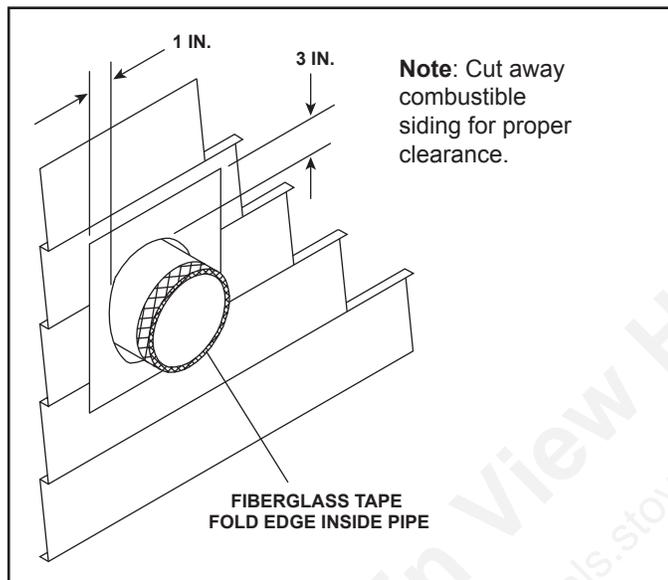
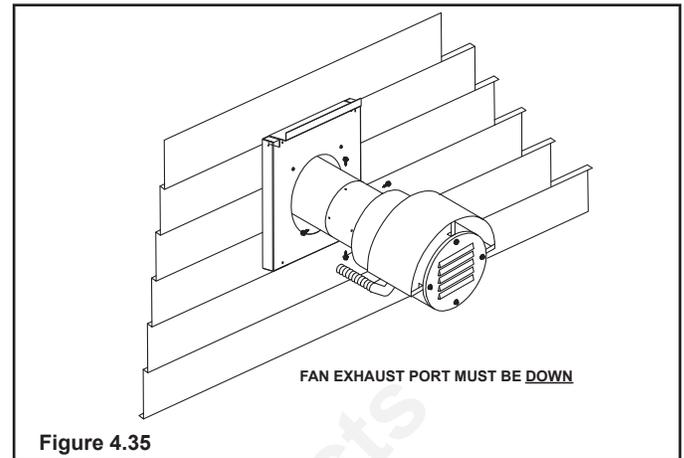

Figure 4.34
Figure 4.35
3. After determining the location of the vent system termination point (see Step 1) cut a 10 in. X 12 in. rectangular hole through the wall or roof. Apply the adhesive back fiberglass tape to the last vent system component 1 1/4" from the edge. Firmly press the tape on to the venting and fold the extra tape inside the venting. See Figure 4.34. Mount and attach the power vent to the last vent system component. The exhaust port of the PVK-80 cap **MUST** be pointed down. Fasten the last horizontal vent section to the exterior firestop with a sheet metal screw through the flange and into the vent pipe. See Figure 4.35.